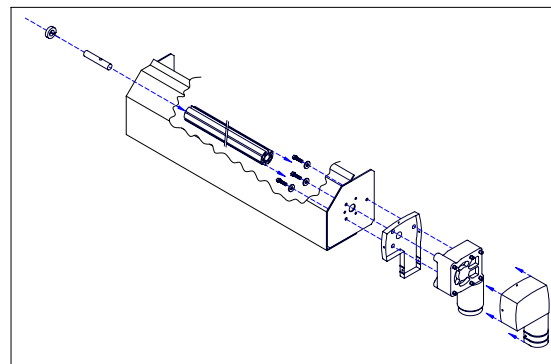

FIGURE 1
- 2) Attach the direct drive motor to either side of the tarp housing using the included 5/16" x 3/4" bolts. Attach cover to motor using the "U" nuts and #8 screws. (See figure 1)